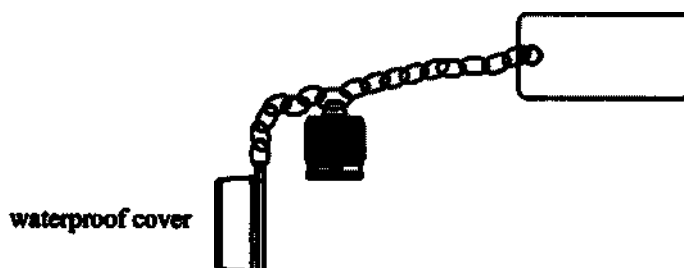

Fig 7.2
1. When cleaning and Disinfection, the waterproof cover must be attached to the electrical connection part above the endoscope. (Fig 7.2)